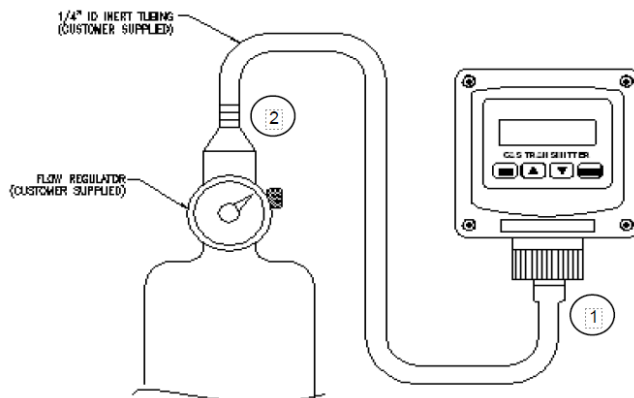

Figure 53: Sensor span cal setup
Referring to Figure 53, slip the calibration adapter onto the exposed end of the sensor and connect one end of the tubing (1), connect the other end of tubing to the cylinder’s regulator (2). Do not open the gas valve until instructed below.